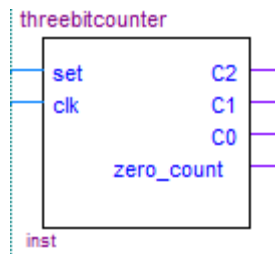

Figure 2. Block symbol for the three-bit counter.
5. Convert the 3-bit counter schematic diagram you built to a block as in Figure 2. This block will be used in the final circuit implementation in part 3.